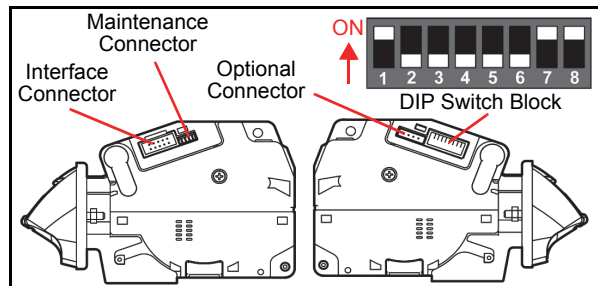

Figure 6-4 Taiko DIP Switch & Port Location
2. Figure 6-4 illustrates the Taiko's external Ports, DIP Switch Block locations and its initial Switch settings. To prepare the PUB-7/11 for a software download, set the DIP Switches as follows: